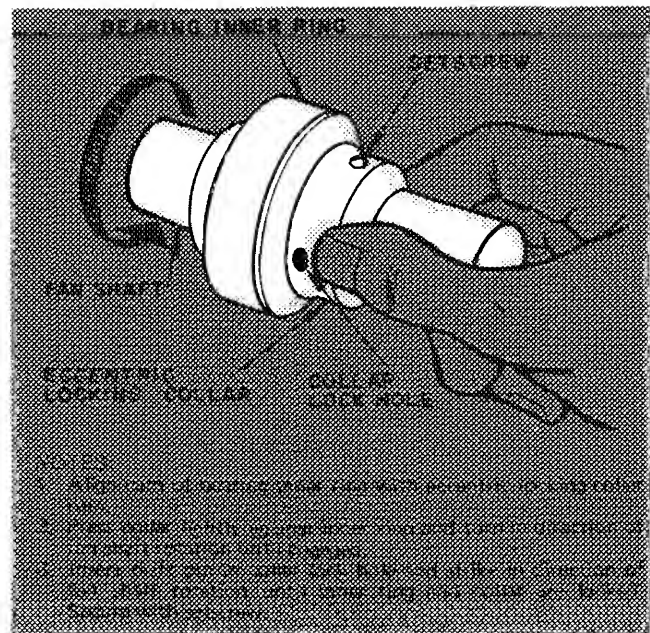

Fig. 26 — Securing the Bearing Eccentric Locking Collar
3. Check secureness of bearing locking collars per Table 4. Refer to Fig. 26 for eccentric type.
5. Install new bearing and tighten bearing locking collar setscrews per Table 1 and Fig. 26.